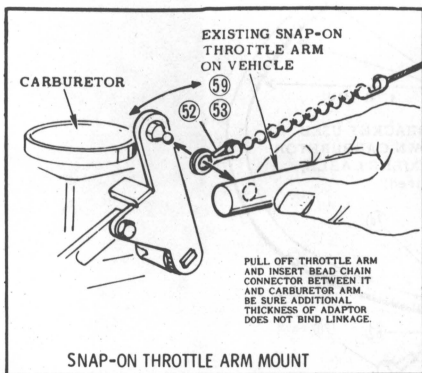

Figure 8.2
4. Attach the cable connector to the throttle linkage. Determine a suitable point on the throttle linkage to mount the cable connector. Figures 8.2 thru 8.6 show several possible methods. The mounting point chosen should have between 1½" and 2" total travel and operate smoothly by hand. Attach the cable connector using parts shown in Figure 8.10.